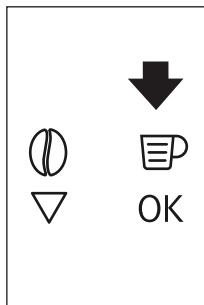
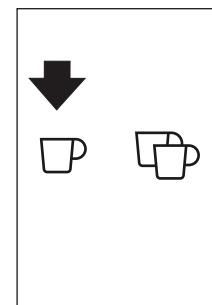
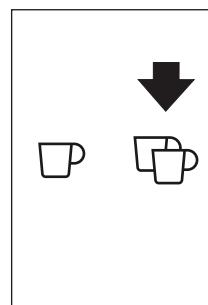

Fig. 18
Fig. 19
Fig. 20
- ▶ Press the icon (B5) (Fig. 18) to select the type of coffee: espresso, small cup, medium cup, large cup, mug. Press the icon \square (B10) (Fig. 19) if you want to make a coffee and the icon $\square\square$ (B11) (Fig. 20) if you want to make 2 coffees. The appliance now grinds the beans and starts delivering the coffee into the cup. Once the set amount of coffee has been delivered, the machine stops delivery automatically and expels the exhausted waste coffee into the waste coffee container.